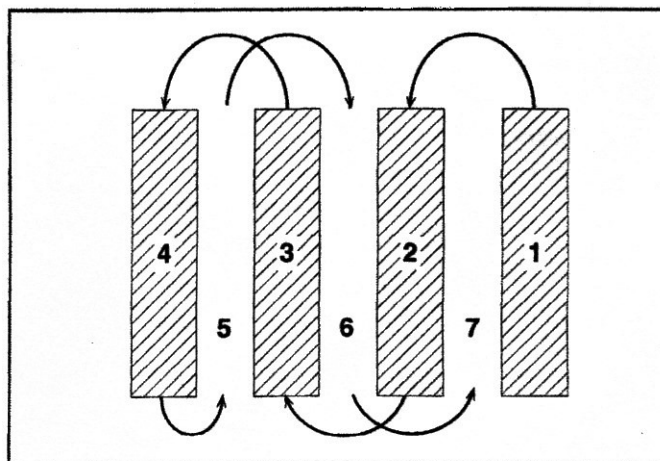

FIG. 15
TILLING HINTS (See Fig. 15)
- You will find tilling much easier if you leave a row untilled between passes. Then go back between tilled rows. (See Fig. 15) There are two reasons for doing this. First, wide turns are much easier to negotiate than about-faces. Second, the tiller won't be pulling itself, and you, toward the row next to it.